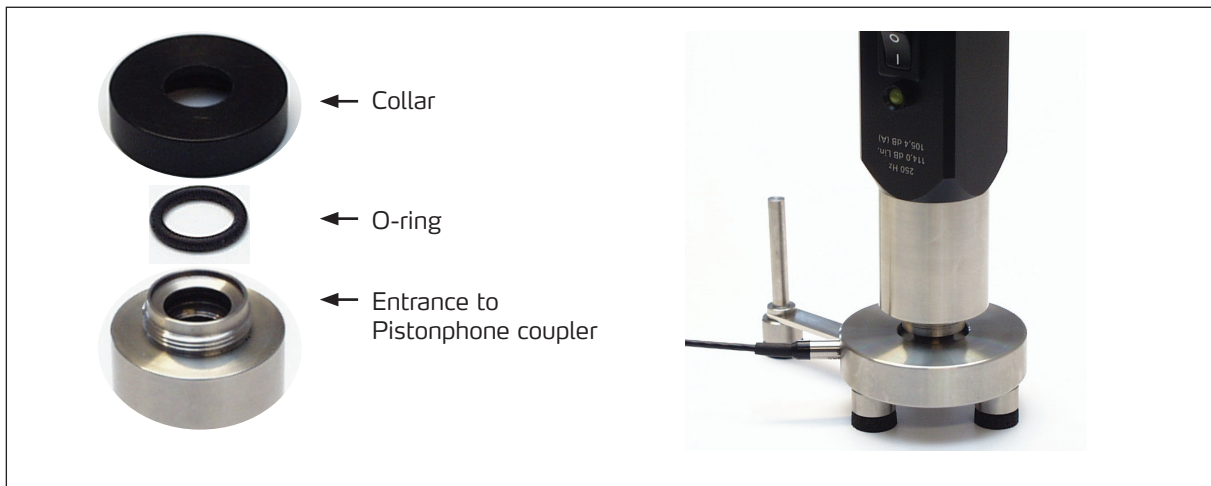

Fig. 3. Calibration using the Pistonphone
- 3) Unscrew the collar of the Pistonphone and remove the O-ring (see Fig. 3).